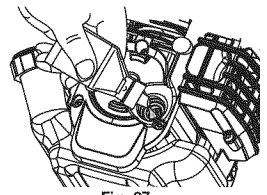

Fig. 27
- Refill the crankcase with 3.04 fluid ounce (90 ml) of SAE 30 SF, SG, SH oil (Fig. 27).